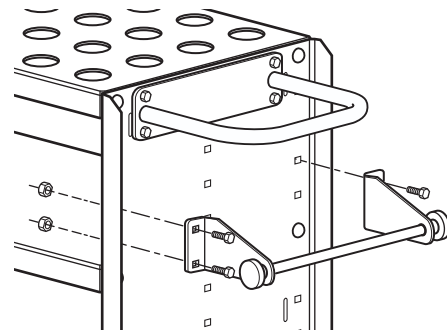

Figure 4-14
4. Using four M8 x 20 Round-Head Square-Neck Carriage Bolts (item #3) with M8 Flanged Nylock Hex Nuts (item #2), and attach the Rod assembly to the Side Panel, just below the Handle, as shown in Figure 4-14. **Only fully tighten these four bolts and nuts at this time.**